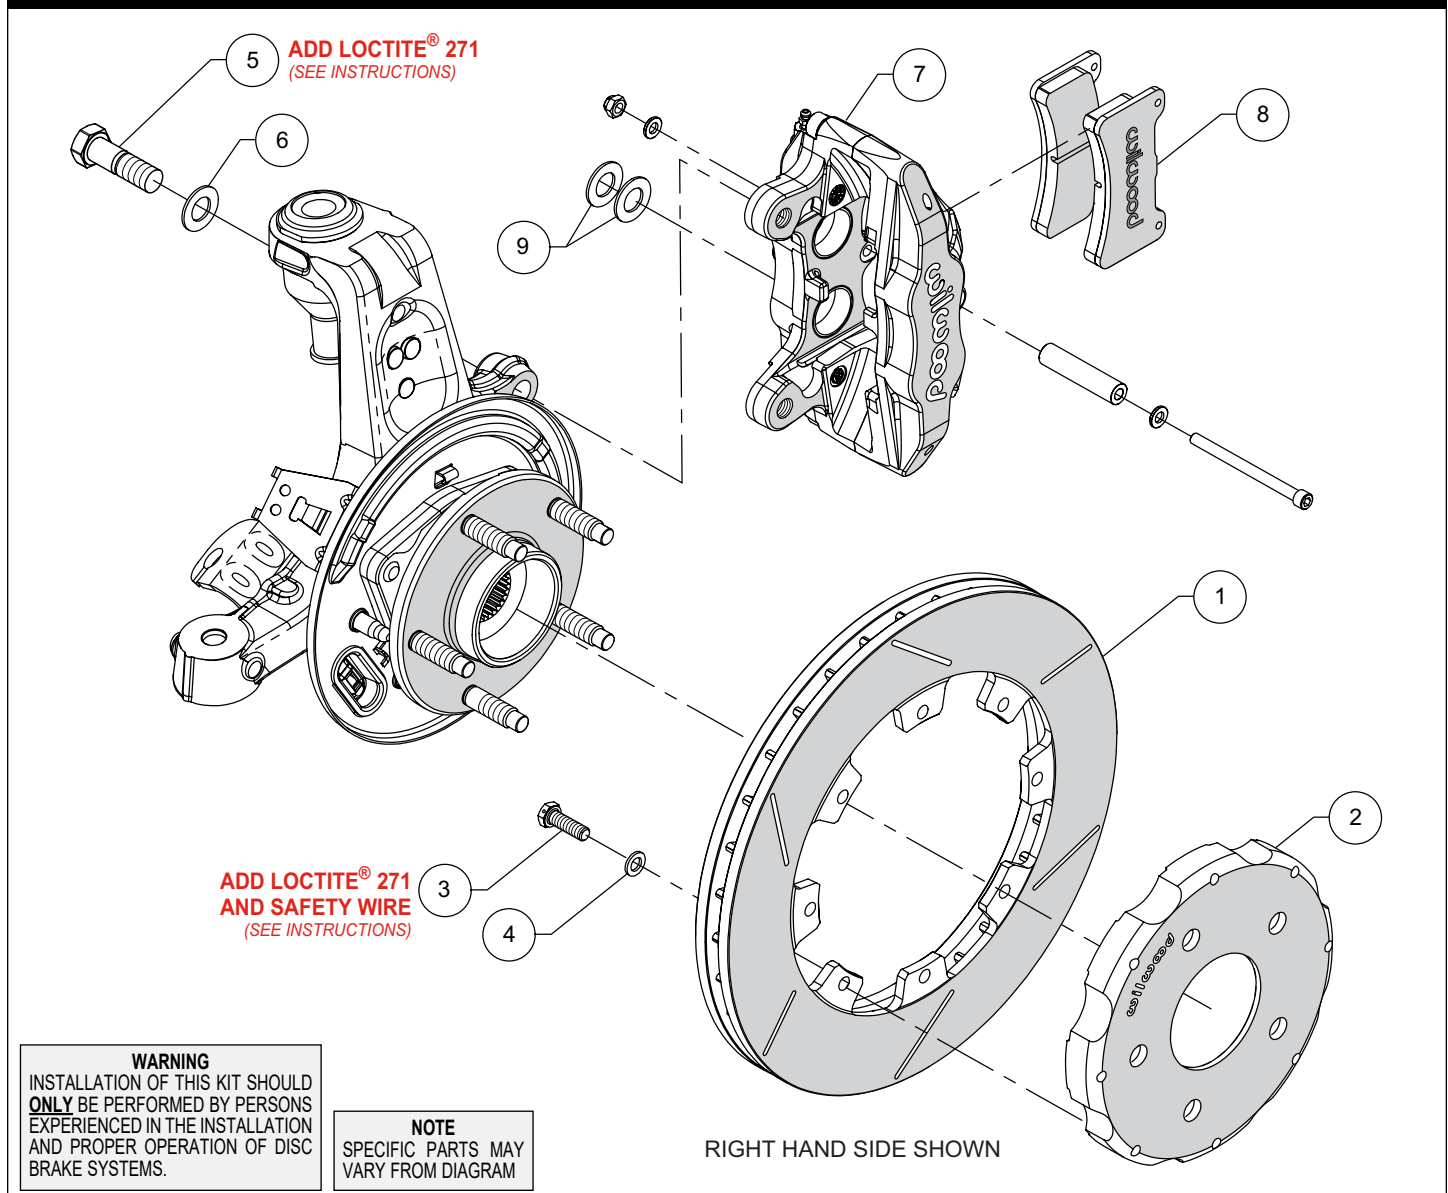

Figure 1. Typical Installation Configuration
NOTE: Numbers in parenthesis refer to the parts list and Figure 1 on the preceding pages.
•Orient the rotor (1) and the hat (2) as shown in Figure 1, Photo 1. Attach rotor to hat using bolts (3) and washers (4). Using
- Orient and install the caliper (7) as shown in Figure 1, Photo 2. Secure the caliper to the OE mounting tabs using bolts (5) and washers (6). Apply red *Loctite*[®] 271 on the bolt threads and torque to 77 ft-lbs.
- Remove the caliper center bridge pad retainer bolt, nut, and tube from the caliper. Insert the brake pads (8) into the caliper, with the friction material facing the rotor, Photo 3. Secure the brake pads in place with the center bridge pad retainer tube, bolt, and locknut, Photo 4. The locknut should be snug without play in the bolt or tube. Be cautious not to over tighten.
- Do not lubricate banjo bolt. With the two new crush washers (9) installed, torque bolt to 96 - 120 **in-lbs.** (do not exceed 144 **in-lbs**). Torque to lighter specification and check for leakage, increasing torque only to stop leakage without exceeding maximum specification. Replace crush washers and banjo bolt whenever re-assembly is required.